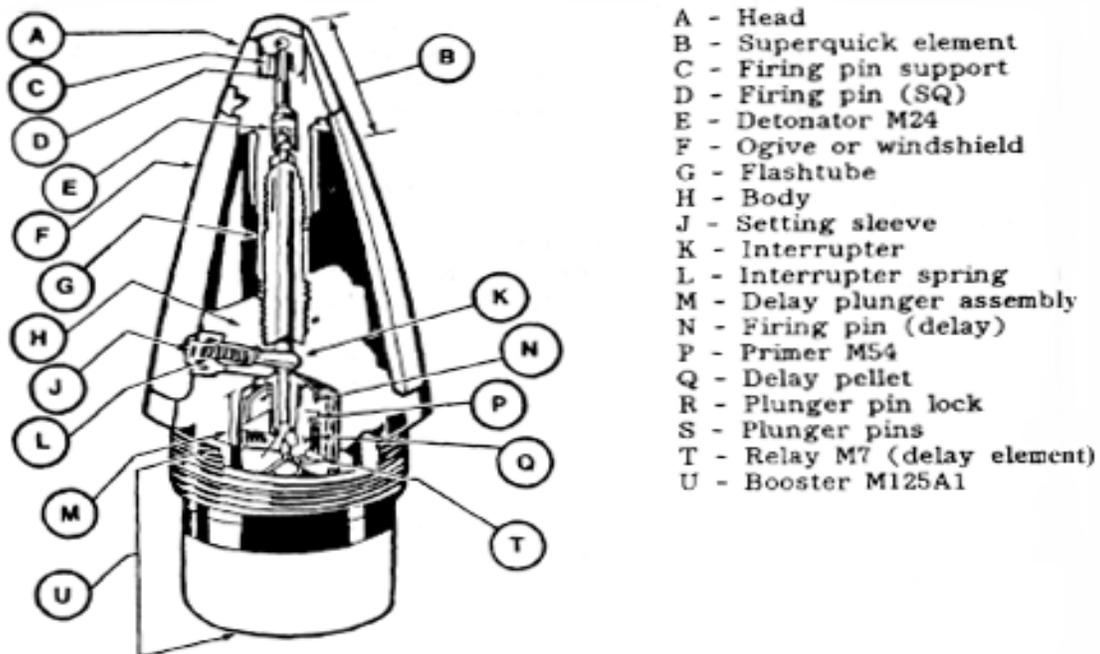

Figure 3-2. Impact fuze M557
(1) The M557 fuze (Figure 3-2) is classified as a selective fuze because it offers a choice of superquick or delay action. This fuze has a black powder pellet that gives a delay of 0.05 seconds and is used with all HE projectiles. The M557 fuze is set by means of a slotted screwhead (selector sleeve) on the side of the fuze body. Turning the slot to the vertical position (SQ) gives superquick action. Turning it to the horizontal position (DELAY) gives a delay action. The position of this slot determines the action of the interrupter. If the selector is set for DELAY, the interrupter is locked into the flash channel and the superquick element cannot be armed. If the selector is set for SQ, the interrupter is moved out of the flash channel by centrifugal force. Therefore, the flash from the superquick detonator travels directly to the booster, and superquick action results. If, for any reason, the superquick components fail to function, the delay plunger will move forward and cause the projectile to explode with delay action. The M557 fuze consists of: